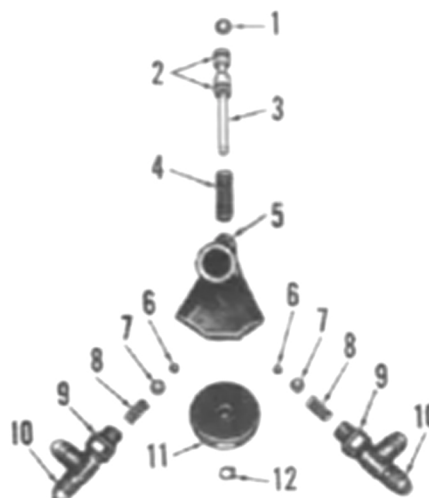

Fig. 158 - Exploded view of equalizer valve.
125. OVERHAUL EQUALIZER VALVE. With equalizer valve removed, refer to Fig. 158 and remove snap ring (12) and equalizing plate (11). Tap the spool (3) from snap ring end to knock plug (1) out the opposite end, then remove spool and spring. Remove the fittings (10), springs (8), 5/16-inch balls (7) and 3/16-inch balls (6).